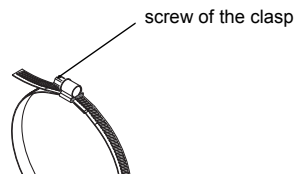

Fig. 8.19: Tension strap with band clamp clasp
- Place the tension strap around the pipe and insert it into the clasp (see Fig. 8.19).